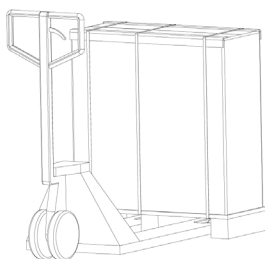

Fig. 8.
- ❑ To unpack the equipment, follow the sequence of figures 8 to 10 (cut the wraps of the cardboard enclosure and remove it from the top as it was a cover or in case of wooden packaging use the needed tools; remove the corners and plastic bag. The UPS will be naked over the pallet.